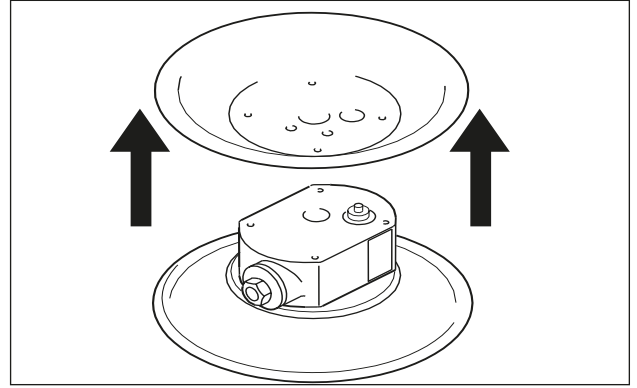

Fig. 13: Disassembling the air chambers
- Unscrew the air chambers from the central block (only on metal pumps, exception: DB diaphragm pumps, DH) (Fig. 13).